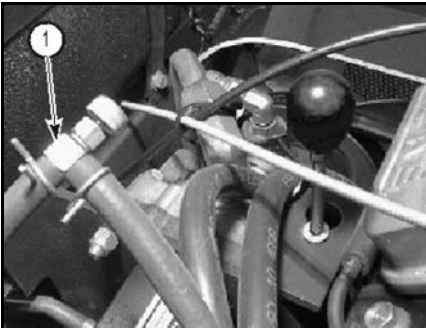

Figure 4
- Open the fuel tank shut off valve (1, Figure 4) (located by the fuel tank) on the fuel line by turning knob counterclockwise.